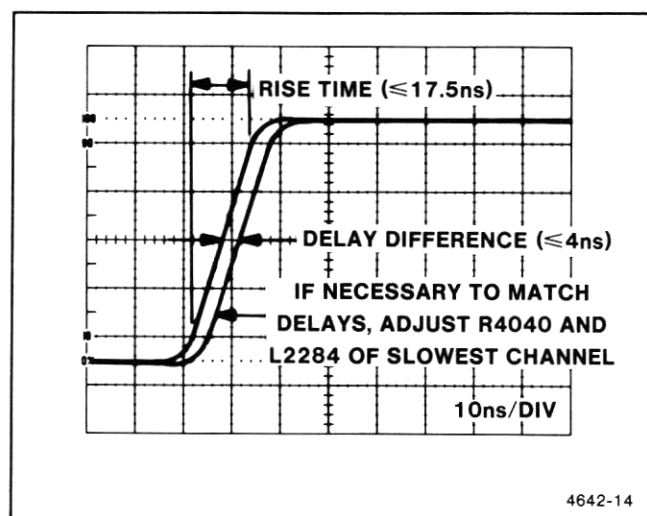

Figure 5-5. Rise time and signal delay difference.
o. CHECK - The signal delay difference between the two channels should be less than or equal to 4 ns. (See Figure 5-5.) If the delay difference is excessive proceed with part p, if the delay difference is within specification proceed with step 4.